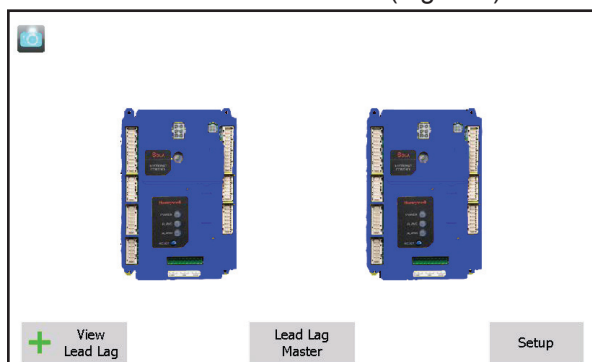

Fig. 116 – 'home' screen
1. Start at the 'home' screen (Fig. 116).